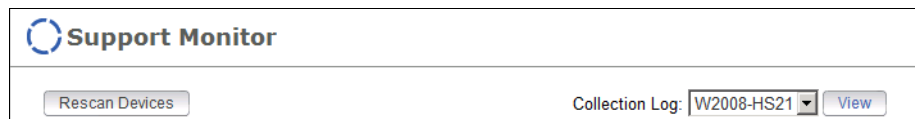

Figure 14-29 View Collection Log
1. In the Support Monitor view, click the **View** button to the left of the host name listed in the **Collection Log** box as shown in Figure 14-29.